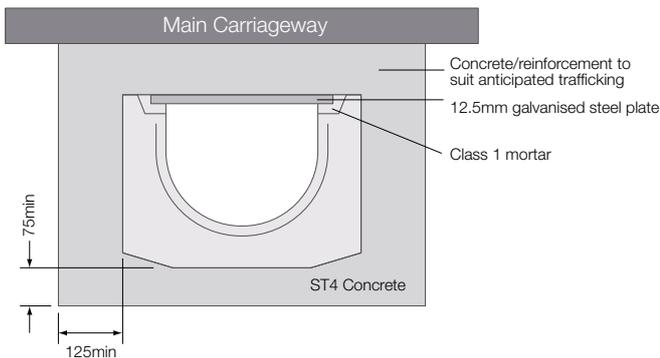
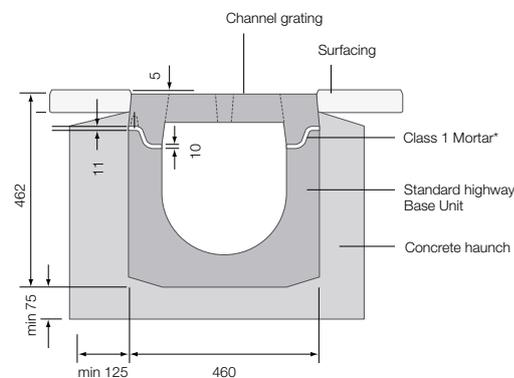

Fig 1. Highway crossing – base unit
Fig 6. Channel grating/concrete drainage top
- ▶ Use crossing base units to carry drainage runs under side roads/vehicular crossing points (see Fig 1) Grid units available (see Fig 6)